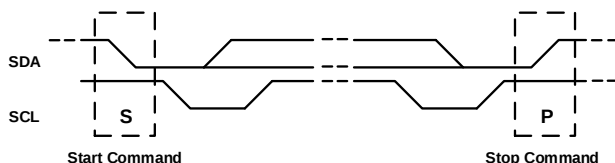

Figure 6: Start and Stop Command
The start and stop commands are signaled by the master device, which signifies the beginning and the end of the digital interface transfer. A start (S) command is defined as the SDA signal transitioning from high to low while SCL is high. A stop (P) command is defined as the SDA signal transitioning from low to high while SCL is high (see Figure 6).